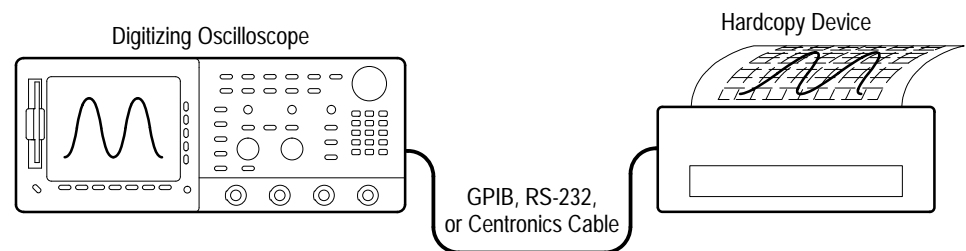

Figure 3–73: Connecting the Oscilloscope Directly to the Hardcopy Device
**Connect to a Hardcopy Device.** To connect the oscilloscope directly to a hardcopy device, determine which interface and cable the device uses, and connect accordingly. (See Figure 3–73.)